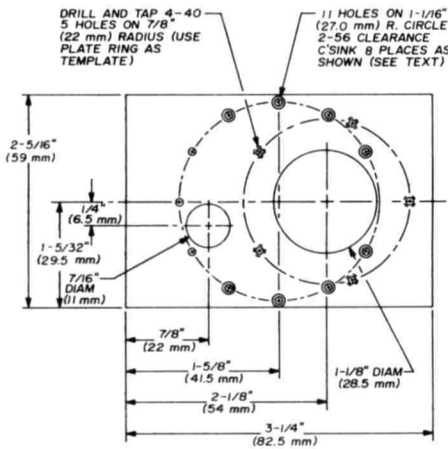
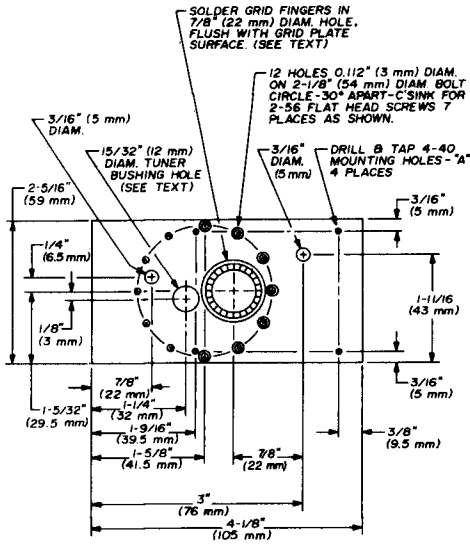
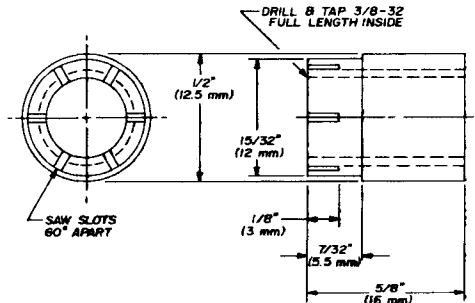
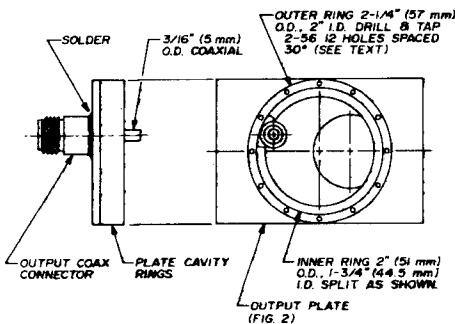

fig. 2. Dimensions for the output plate (out-
fig. 3. Grid partition for the 2304 amplifier. Material is 0.093" (2.5mm) brass.
fig. 5. Tuner bushing (two required). Material is 1/2" (12.5mm) brass tube.
fig. 4. Plate circuit ring assembly (inside view on right).
fig. 1. Plate ring for the 2304-MHz power amplifier. This ring is mounted on the output plate (fig. 2) with a 10 mil (0.25 mm) Teflon insulating sheet. Material is 1/8" (3mm) brass.
1) sandwiched between the output plate (fig. 2) and the grid partition (fig. 3). The plate ring with its finger stock is mounted on the outside of the output plate with a 10 mil (0.010 inch or 0.25mm) Teflon insulating sheet. The 11 holes on the output plate are drilled 30° apart on a 1-1/16-inch (27mm) radius circle. Eight of these holes are countersunk for flat-head 2-56 screws so that the plate ring will mount flush. The output plate is used, in turn, as a template for locating the tapped holes in the plate cavity. Fig. 4 shows the plate cavity rings mounted on the out-
The 15/32-inch (12mm) tuner bushing hole in the grid partition (fig. 3) should be drilled undersize, and reamed out to provide a force fit with the bushing. The tuner bushing (fig. 5), extends 1/8 inch (3mm) into the plate
If brass tubing with 3/8-32 threads on the inside is not available, tap 13/32-inch (10.5mm) ID brass tubing to a depth of 5/16 inch (8mm) from each end as shown in fig. 5. Turn down the shoulder on one end by using your hand drill as a lathe. One of the tuning pistons can be used as a jig to hold the tuner bushing during this operation. The drill should be run at slow speed if a variable speed unit is available; otherwise, use a Variac to adjust the speed of the drill.